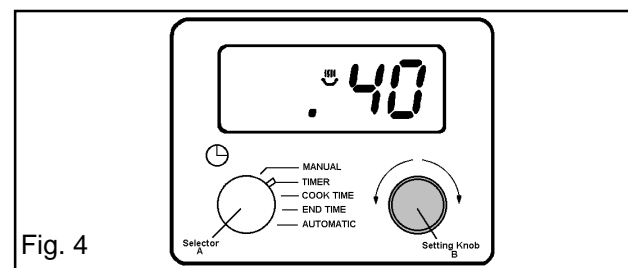

Fig. 4
Using setting knob (B), turn until the required period to be timed is shown e.g. 40 mins. Fig. 4.